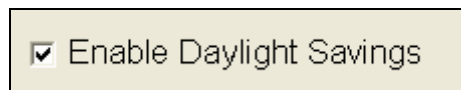

Figure 16.5.6A
- Next check the **Enable Daylight Savings** box if you want the controller time to change along with daylight savings (Figure 16.5.6A).